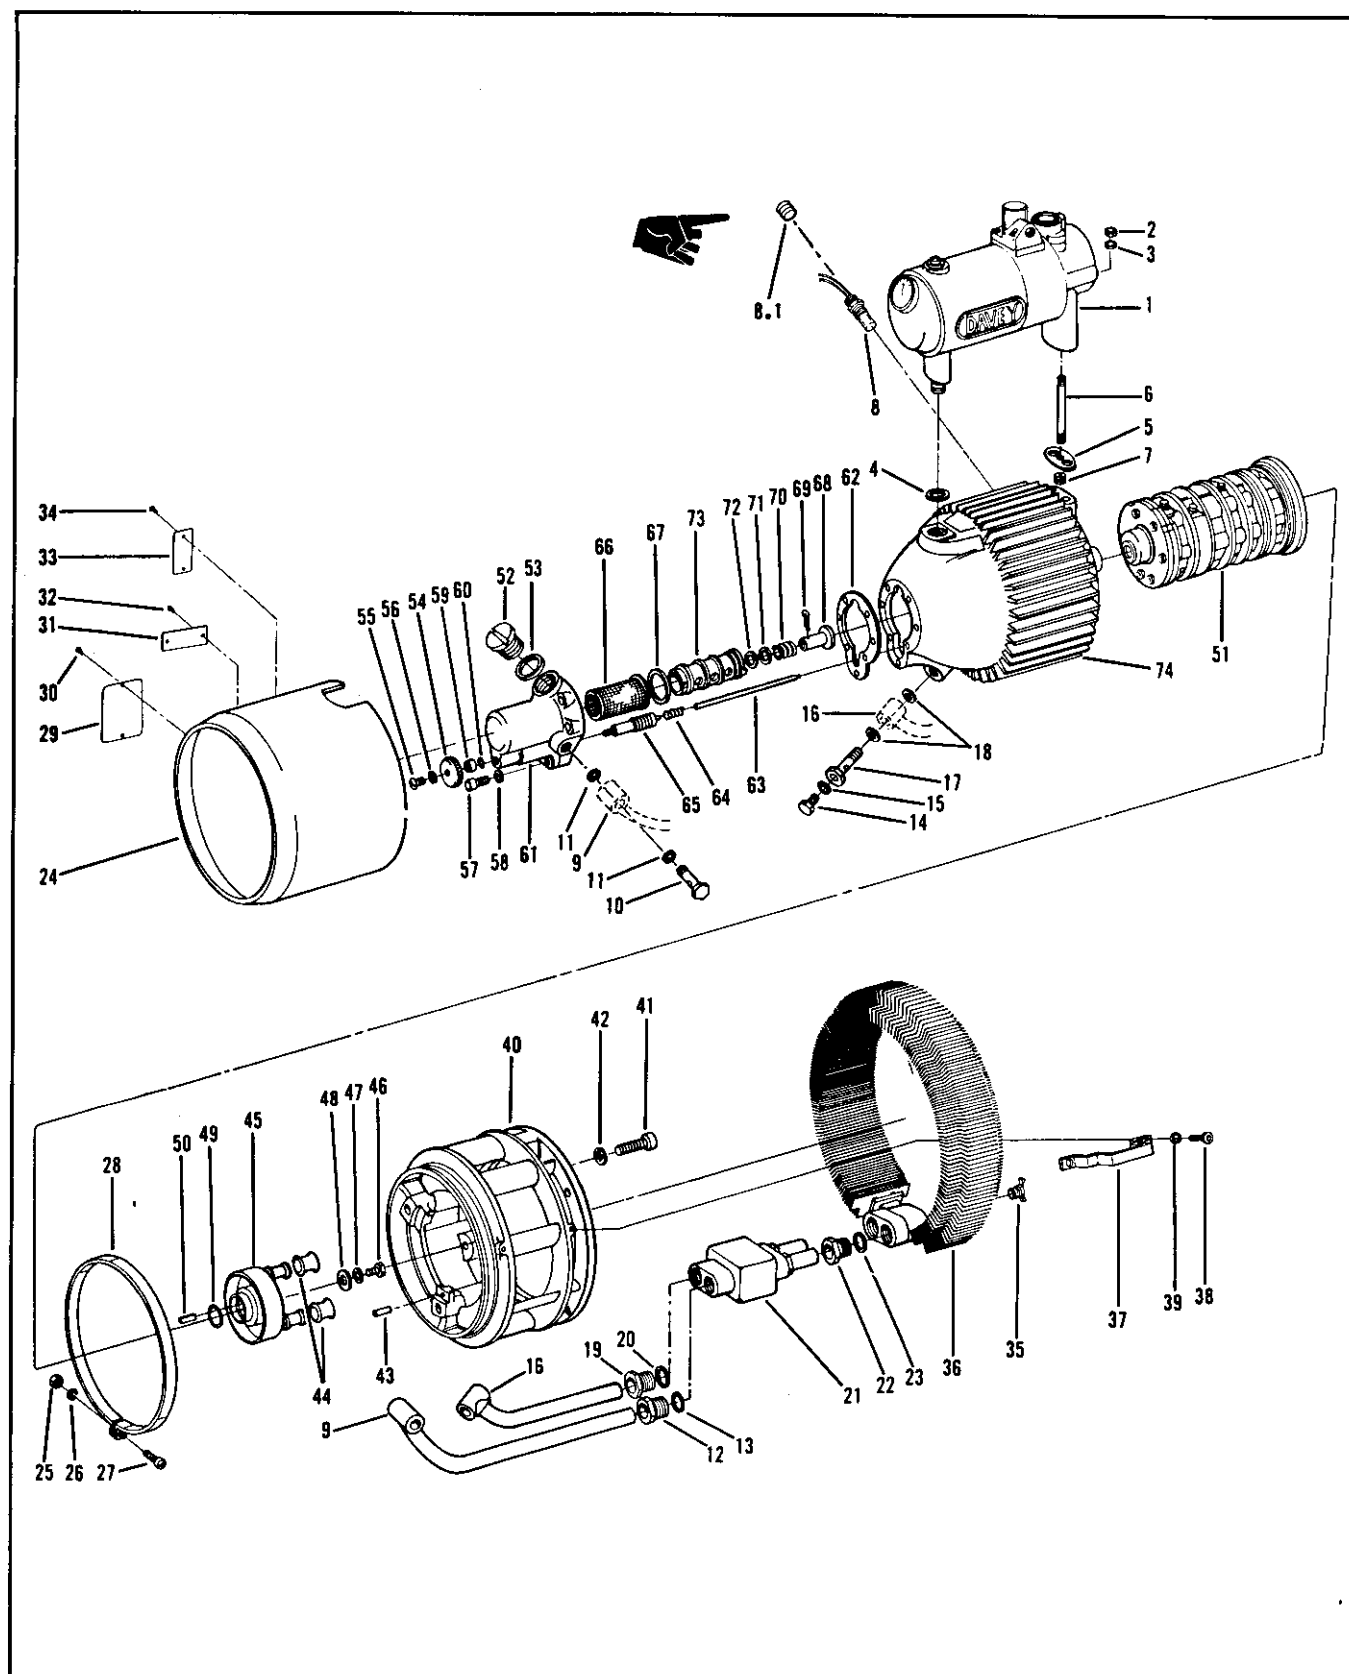

Figure 3-5. Air Compressor Assembly
3-6. AIR COMPRESSOR DISASSEMBLY (Figure 3-5). Disassemble the air compressor assembly in the following sequence.
- a. Remove nut (2) and lock washer (3) attaching oil separator assembly (1) to stud (6). Unscrew separator bolt (1, figure 3-6) to free separator assembly (1, figure 3-5) from oil chamber (74). Lift separator assembly (1) off compressor and remove gasket (5) and square section ring (4). Refer to paragraph 3-7 for oil separator disassembly.
- b. Remove separator stud (6) from oil chamber (74). If threads of insert (7) indicate any cross-threading or damage, remove the insert with a heli-coil removing tool. If no damage is evident the insert (7) should not be removed. Unscrew and remove the compressor high temperature thermoswitch (8), or pipe plug (8.1), whichever is used.
- c. Remove tube bolt (10), square section rings (11), loosen sealing screw (12) from thermal bypass valve (21), slide the sealing screw away from valve on tube (9), remove oil tube assembly (9) and square section ring (13).
- d. Remove drain plug (14), o-ring (15), banjo bolt (17) and square section rings (18). Loosen sealing screw (19) from thermal bypass valve (21), slide sealing screw away from valve on oil tube (16), remove the oil tube assembly (16) and square section ring (20).
- e. Unscrew two sealing screws (22) from oil cooler (36) and remove the thermal bypass valve assembly (21), sealing screws (22) and square section rings (23). Refer to paragraph 3-8 for thermal bypass valve disassembly.
KEY to figure 3-5: